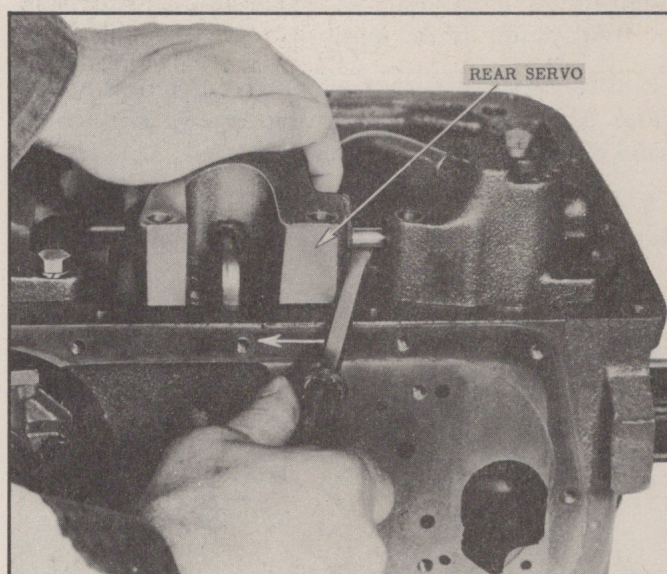

Fig. 118—Moving Rear Servo Toward Rear of Transmission
3. Separate front and rear servos at oil transfer pipe by moving rear servo toward rear of transmission (Fig. 118). Remove rear servo.